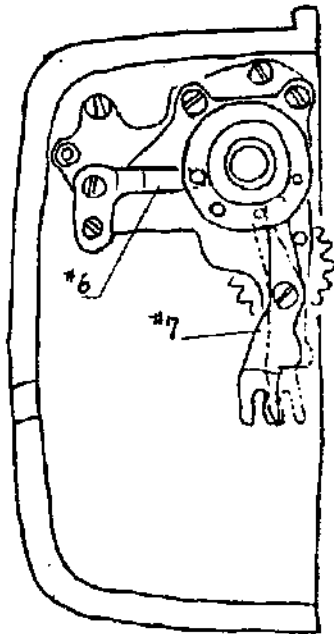

fig. 1
1. Excessively tight gearing with Film Back Gear due to deformation of Pin #2 of Body F Film Advance Conveyor Lever (Upper) #1 (See Fig. 1).
Check whether the 12 and 24 exposure switch lever clicks in properly (See Fig. 1).